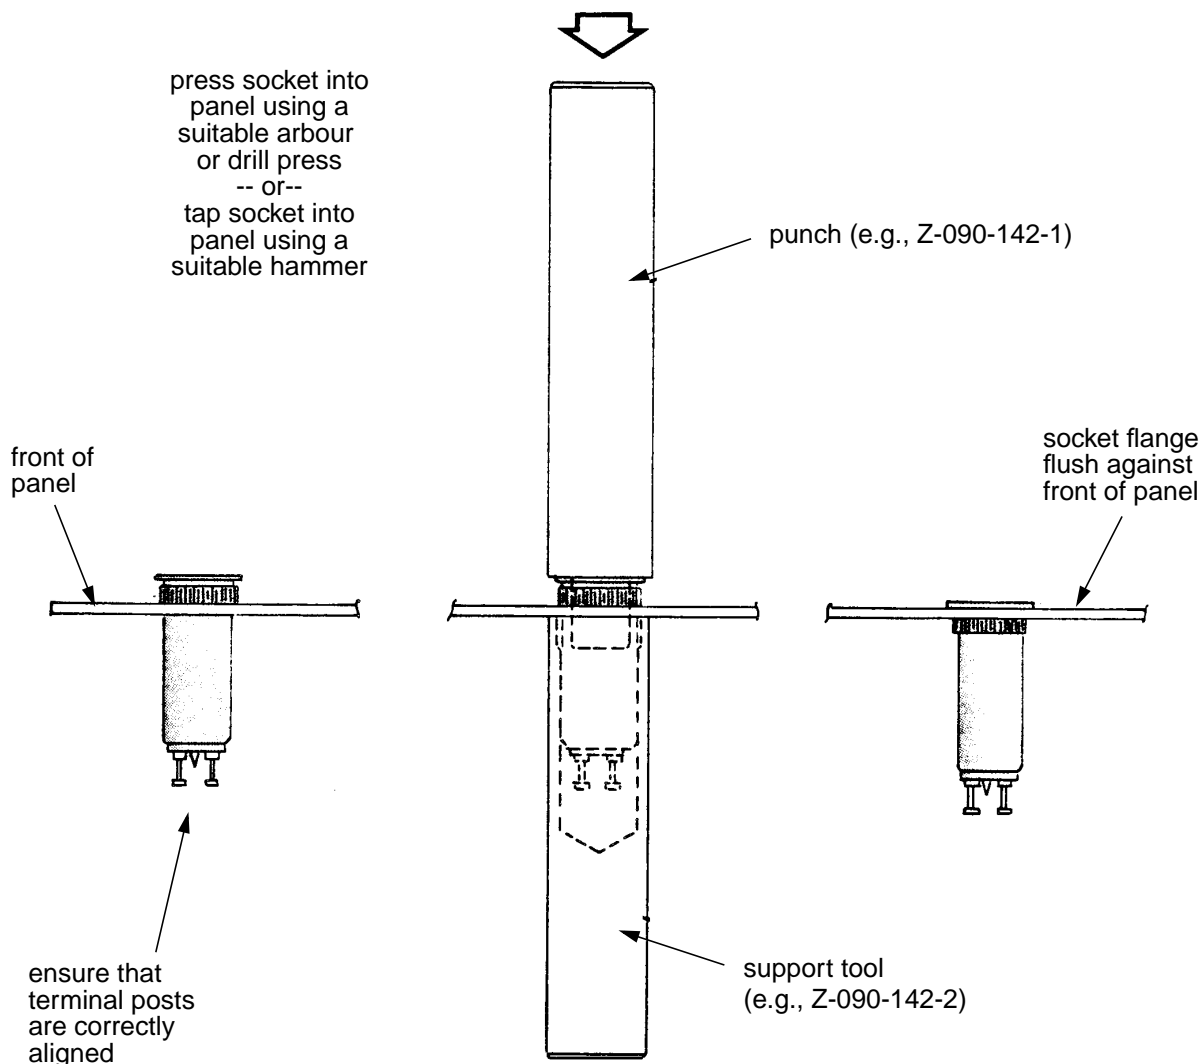

Figure 2 - Installation of DHP Lamp Socket
5.3.1 Install lamp sockets as follows (see Figure 2):